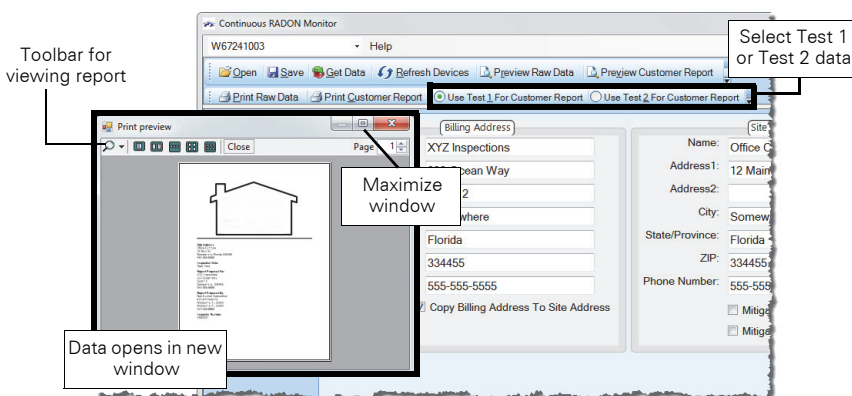

Figure 18. Preview Report
- 4 Click **Preview Customer Report**. The selected report opens in a new window (Figure 18). The viewer's toolbar offers viewing options.